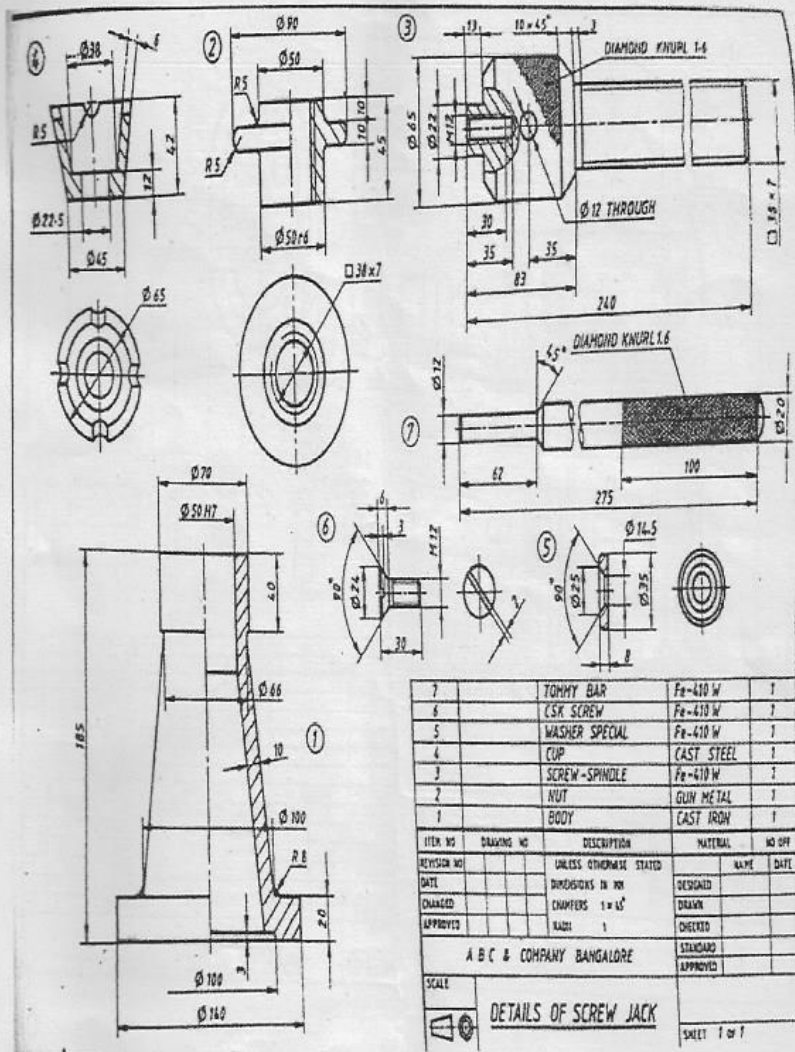

Fig.3
15. (a) Details of a screw jack is shown in Fig. 3 Assemble the parts of Jack and draw the front view showing right half in section Show only important dimensions on the assembly drawing. Add the item list.